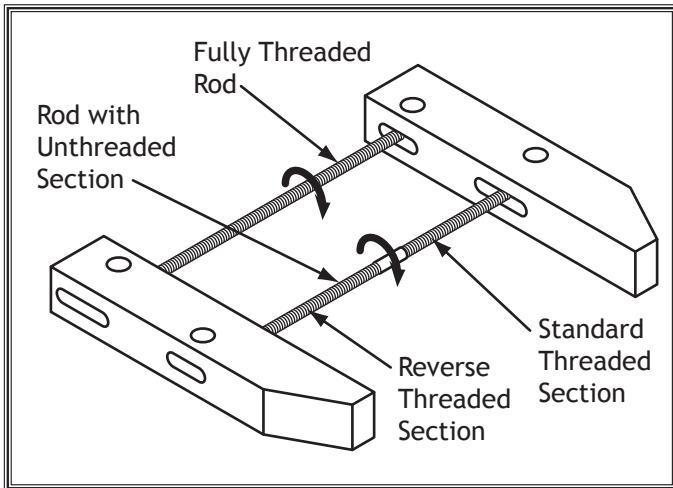

Figure 7. Inserting threaded rods.
6. Evenly thread each end of both threaded rods into the dowel nuts, as shown in **Figure 7**, until enough rod is exposed to slide the handles all the way over the rods.